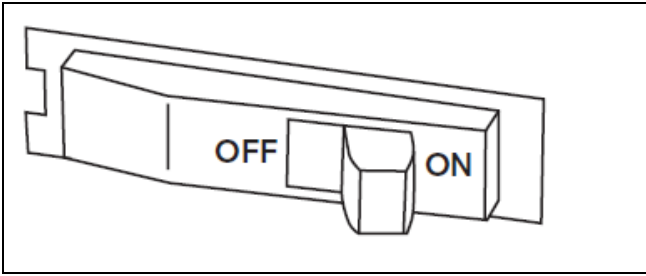

Figure 62
1. Restore power with the breaker. See Figure 62.